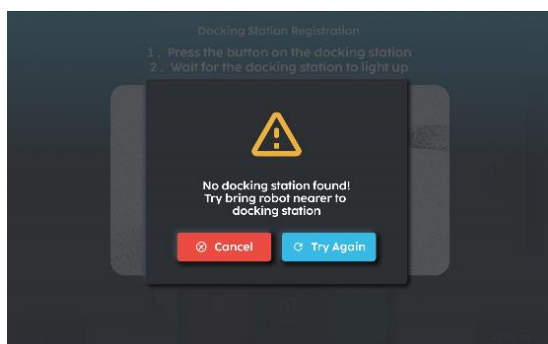

Fig 9
9. If the station is not found (Fig 9), bring the robot closer to the station. Then select 'Try Again'.